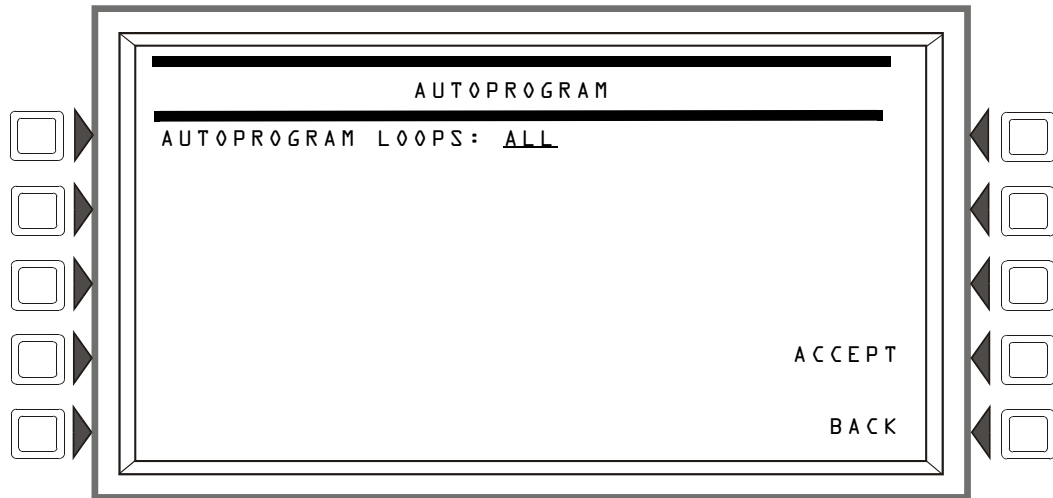

Figure 3.63 Autoprogram Menu Screen
3. Press the **AUTOPROGRAM L O O P S** soft key and enter the desired SLCs (loops **1+2** in this example) in the Autoprogram Menu screen (Figure 3.63)